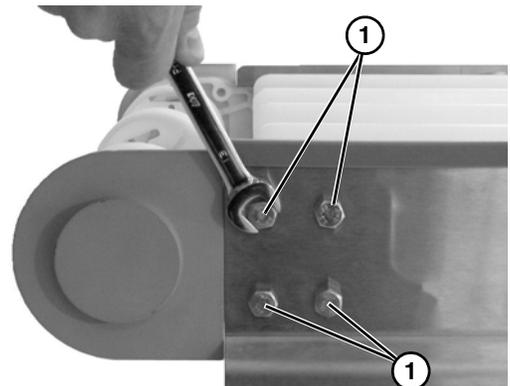

Figure 34
- Remove four head plate bolts (**Figure 34, item 1**). Repeat on opposite side.